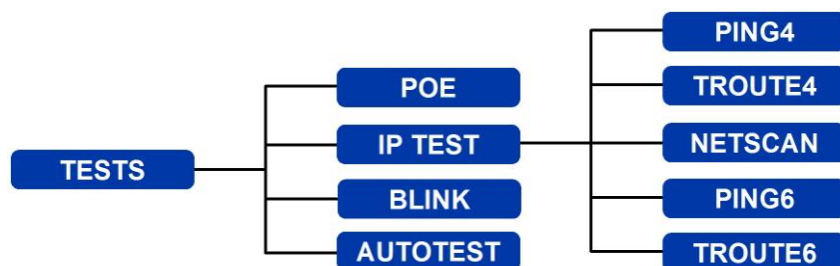

Fig 17 Tests menu map – Ethernet testing (2)
(2) When an active network is detected but no SignalTEK II Remote Unit, the home screen information bar will read 'Ethernet' and when the TESTS icon is selected, the Ethernet tests shown at Fig 17 are available.